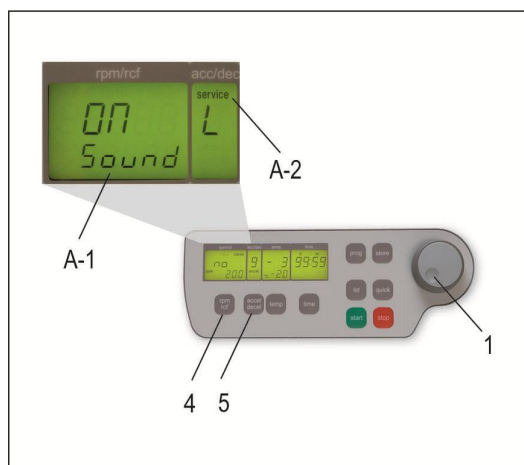

Figure 5
Proceed as described under point 1.8.1 to enter this program mode and then press the key „accel/decel“ (5). In the display „accel/decel“ (A-2) flashes the word „service“. Now select the letter „L“ with the adjusting knob (1). As a result appear in the display „rpm/rcf“ (4) the words „On Sound“. If you press the key „rpm/rcf“ (4) now, the word „On“ flashes and you can switch off the sound with the adjusting knob (1) (see figure 5).